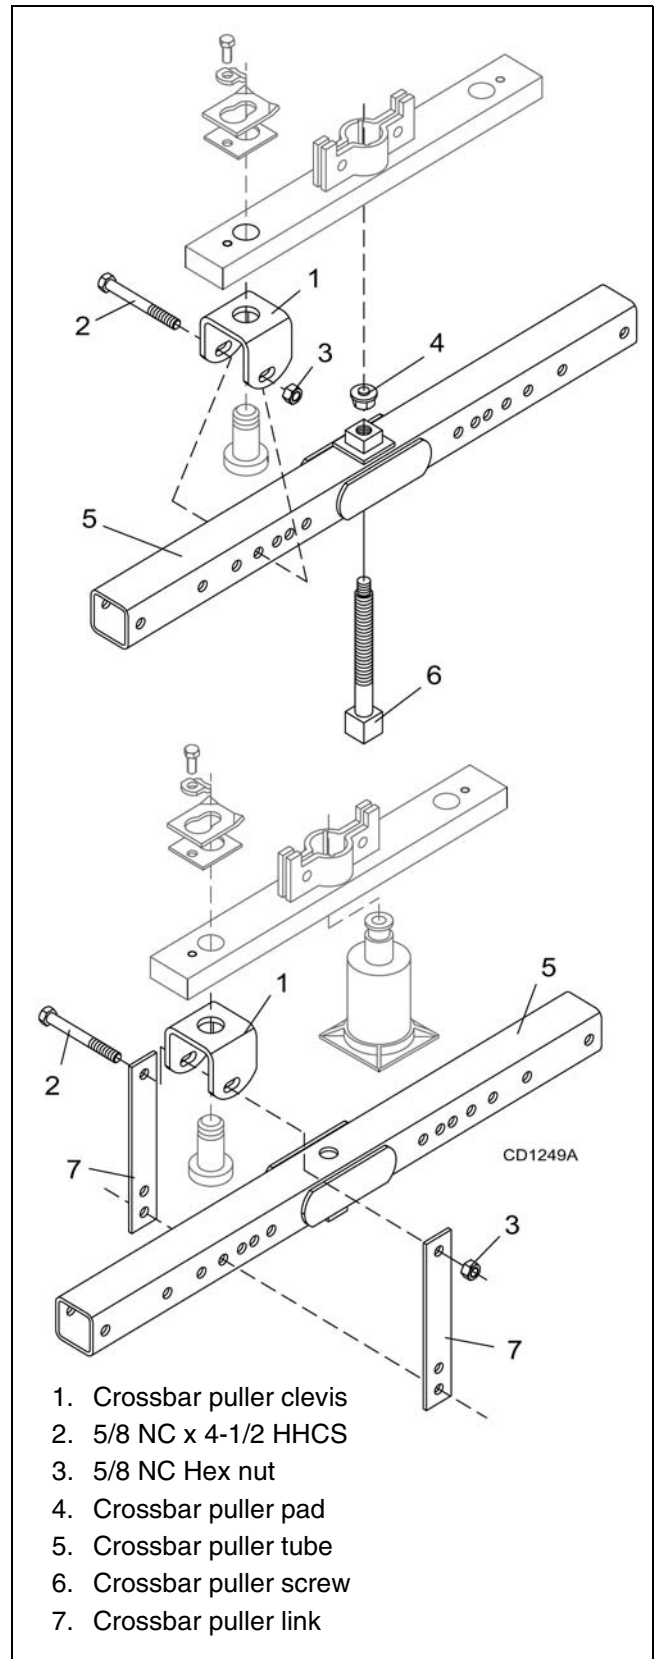

Figure 16. Crossbar Removal
NOTE: You will need to use either the puller screw (Item 6, Figure 16) or a small hydraulic jack to remove the crossbar.
3. Refer to Figure 16. Remove cotter pin from bottom of crossbar and remove nut and washer.
4. Attach a clevis (1) to each end of crossbar, using blade pins, spacers, keyhole plates, and blade pin clips.
5. Position tube assembly (5) with threaded nut (4) toward crossbar for puller screw removal or down for hydraulic jack removal.
6. For removal with puller screw, attach tube (5) to each clevis with bolts (2) and nuts (3). Place pad (4) in nut and thread puller screw (6) into nut from bottom. Tighten until pad is solid against gearbox shaft. For best results, strike head of puller screw with a hammer while tightening with a wrench.
7. For removal with a jack, attach tube to each clevis with puller links (7), bolts (2), and nuts (3). Place jack on tube with end of jack pressing against gearbox shaft. Slowly apply force with jack.